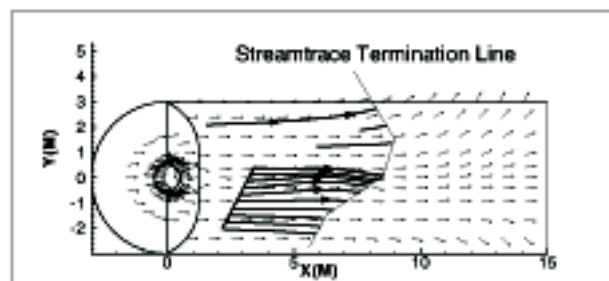

Figure 13-14. A streamtrace termination line drawn through surface streamlines (created with demo file *cylinder.plt*).
- **Termination Line** - A streamtrace termination line is a polyline that terminates any streamtraces that cross it. The termination line is useful for stopping streamtraces before they spiral or stall. Figure 13-14 shows the cylinder data with some streamtraces terminated by a 2D streamtrace termination line.
Figure 13-14 shows a 3D volume plot with streamribbons and a streamtrace termination line, and how the termination points vary as the plot is rotated. Notice that the termination line itself remains in place on the screen as the plot is rotated.